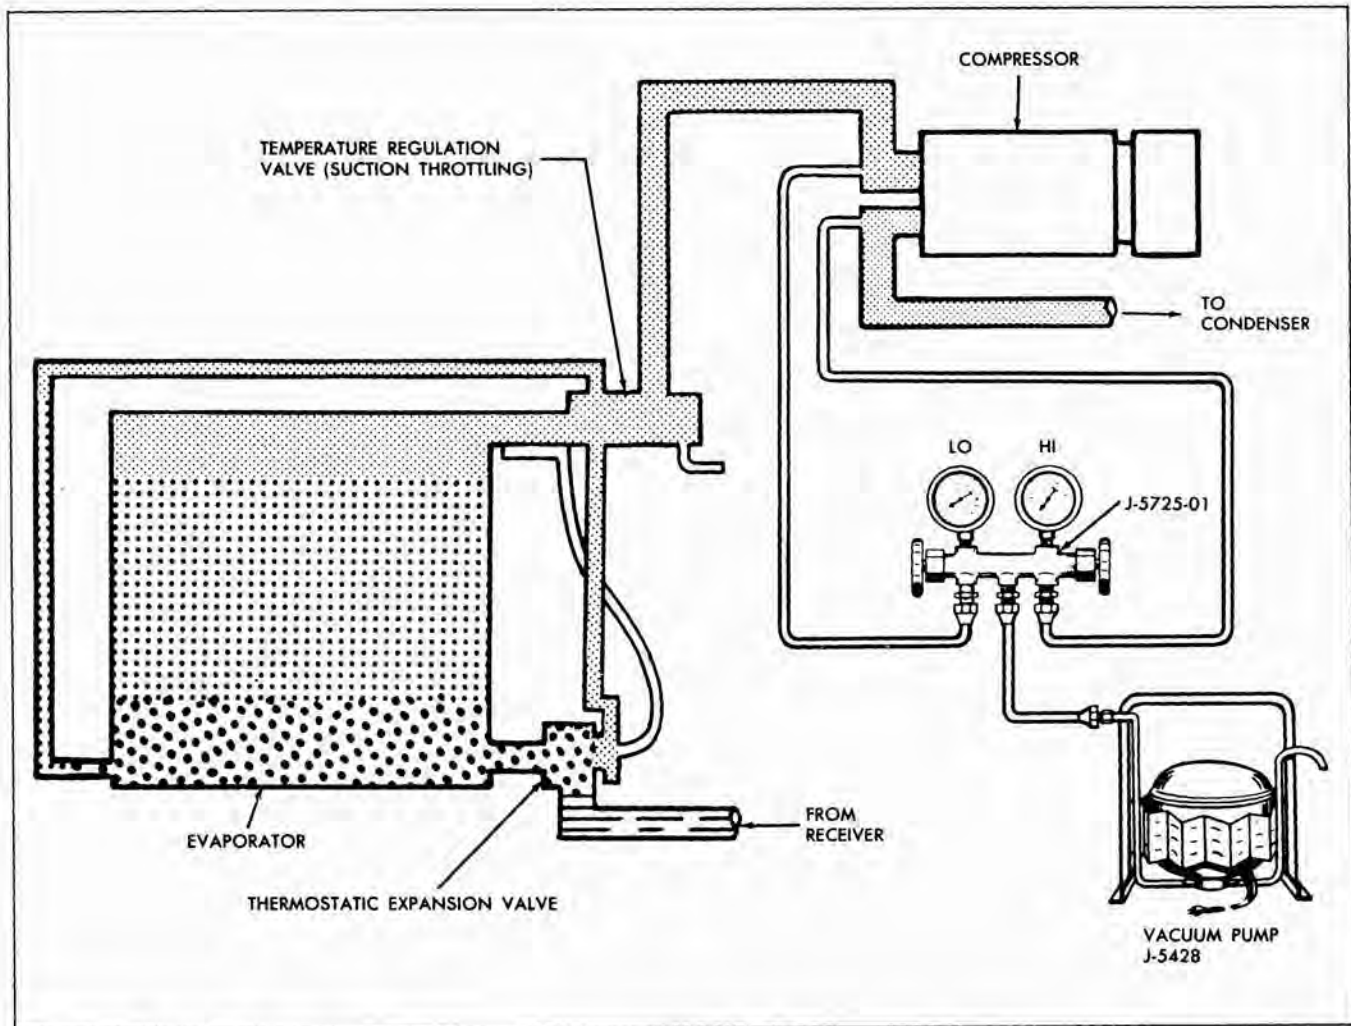

Fig. 5-60 Schematic Showing Connections and Tools for Evacuating the Refrigeration System
2. If gauge set is not already connected to the compressor, connect as follows (Fig. 5-60).
3. Attach a flexible gauge hose to the center fitting of the gauge set and attach the other end of this hose to the vacuum pump J-5428 or J-5428-01 (Fig. 5-60).